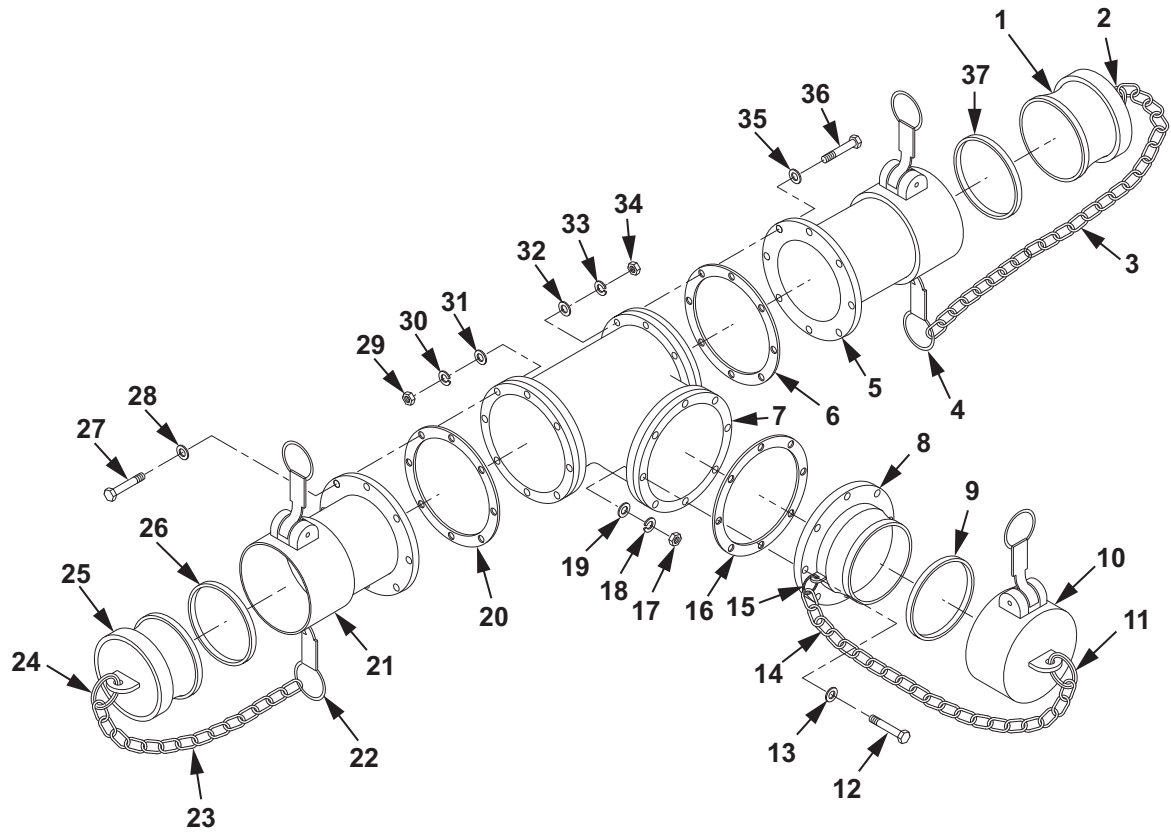

Figure 1. 4 In. Female X 4 In. Female X 4 In. Male Tee Disassembly.
1. Remove quick disconnect dust plug (Figure 1, Item 1) and gasket (Figure 1, Item 37) from coupling (Figure 1, Item 5).
2. Remove quick disconnect dust cap (Figure 1, Item 10) and gasket (Figure 1, Item 9) from coupling (Figure 1, Item 8).
3. Remove quick disconnect dust plug (Figure 1, Item 25) and gasket (Figure 1, Item 26) from coupling (Figure 1, Item 21).
4. Discard gaskets (Figure 1, Item 37, 9, 26).
5. Remove eight nuts (Figure 1, Item 34), lockwashers (Figure 1, Item 33), washers (Figure 1, Item 32), screws (Figure 1, Item 36), washers (Figure 1, Item 35), coupling (Figure 1, Item 5) and gasket (Figure 1, Item 6) from tee (Figure 1, Item 7).
6. Discard gasket (Figure 1, Item 6) and lockwashers (Figure 1, Item 33).
7. Remove eight nuts (Figure 1, Item 17), lockwashers (Figure 1, Item 18), washers (Figure 1, Item 19), screws (Figure 1, Item 12) washers (Figure 1, Item 13), coupling (Figure 1, Item 8) and gasket (Figure 1, Item 16) from tee (Figure 1, Item 7).
8. Discard gasket (Figure 1, Item 16) and lockwashers (Figure 1, Item 18).
9. Remove eight nuts (Figure 1, Item 29), lockwashers (Figure 1, Item 30), washers (Figure 1, Item 31), screws (Figure 1, Item 27), washers (Figure 1, Item 28), coupling (Figure 1, Item 21) and gasket (Figure 1, Item 20) from tee (Figure 1, Item 7).
10. Discard gasket (Figure 1, Item 20) and lockwashers (Figure 1, Item 30).
11. Remove split ring (Figure 1, Item 2) from quick disconnect dust plug (Figure 1, Item 1).
12. Remove split ring (Figure 1, Item 2) from chain (Figure 1, Item 3).
13. Remove split ring (Figure 1, Item 4) from coupling (Figure 1, Item 5).
14. Remove split ring (Figure 1, Item 4) from chain (Figure 1, Item 3).
15. Remove split ring (Figure 1, Item 11) from quick disconnect dust cap (Figure 1, Item 10).
16. Remove split ring (Figure 1, Item 11) from chain (Figure 1, Item 14).
17. Remove split ring (Figure 1, Item 15) from coupling (Figure 1, Item 8).
18. Remove split ring (Figure 1, Item 15) from chain (Figure 1, Item 14).
19. Remove split ring (Figure 1, Item 24) from quick disconnect dust plug (Figure 1, Item 25).
20. Remove split ring (Figure 1, Item 24) from chain (Figure 1, Item 23).
21. Remove split ring (Figure 1, Item 22) from coupling (Figure 1, Item 21).
22. Remove split ring (Figure 1, Item 22) from chain (Figure 1, Item 23).